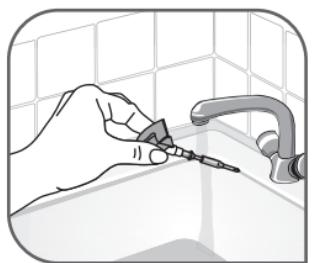

Fig.20
- Rinse the rod under tap water – fig.20.